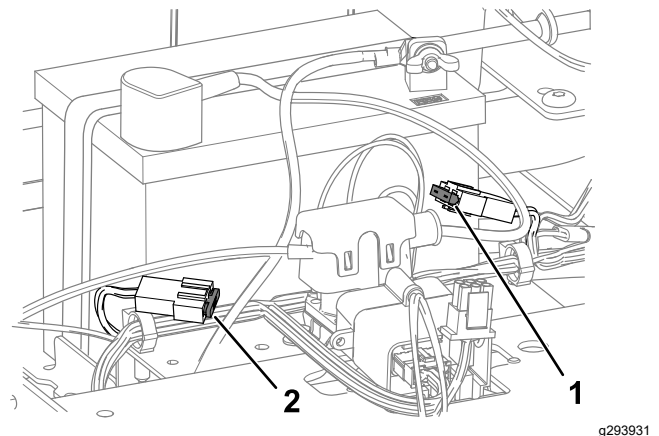

Figure 45
4. To replace a fuse, pull out the fuse to remove it (Figure 45).